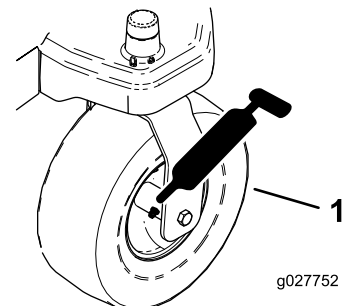
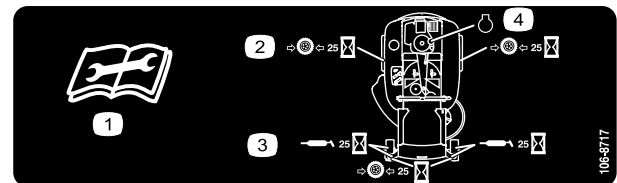

Figure 25
Figure 26
3. Clean the grease fittings with a rag (Figure 25 and Figure 26).
4. Connect a grease gun to each fitting (Figure 25 and Figure 26).